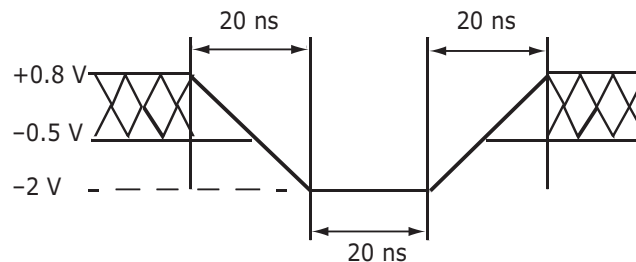

Figure 13.1 Maximum Negative Overshoot Waveform
2. Minimum DC input voltage on pins ACC, A9, and RESET# is –0.5 V. During voltage transitions, A9 and RESET# may overshoot V_{SS} to –2.0 V for periods of up to 20 ns. See Figure 13.1. Maximum DC input voltage on pin A9 is +13.0 V which may overshoot to 14.0 V for periods up to 20 ns.